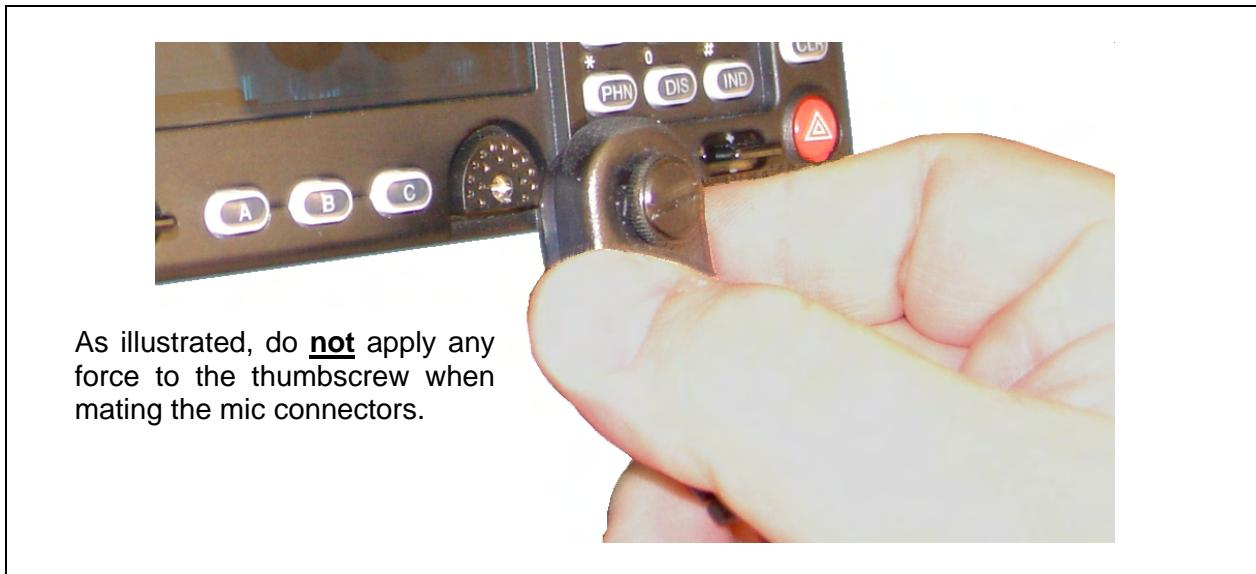

Figure 11-1: Attaching the Microphone to the CH-721Control Head
4. As illustrated in Figure 11-1, grasp the mic's connector with a thumb and index finger on the sides of the connector just adjacent to the thumbscrew.